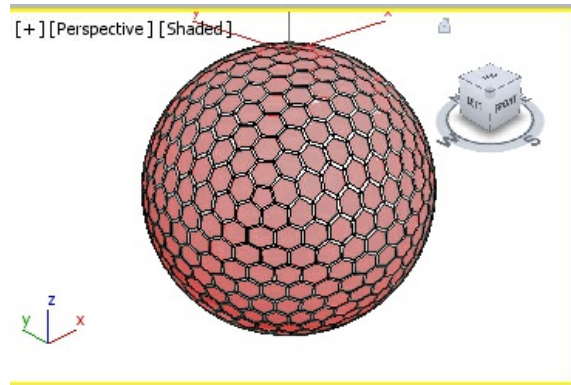

Figure 8-119 Hexagonal polygons displayed after negative extrusion
11. In the **Edit Geometry** rollout, set **-1** in the **Extrude** spinner for the negative extrusion of the selected hexagonal polygons and press ENTER, refer to Figure 8-119.